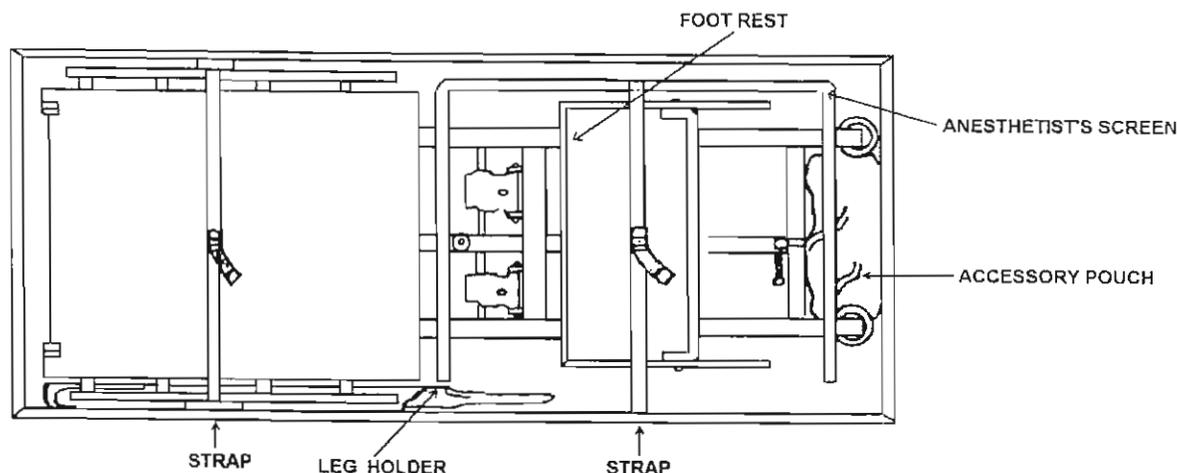

Figure 2-2. Table.
b. *Assembly of the table (fig 2-2).*
- (1) Hold the table in an upright position: